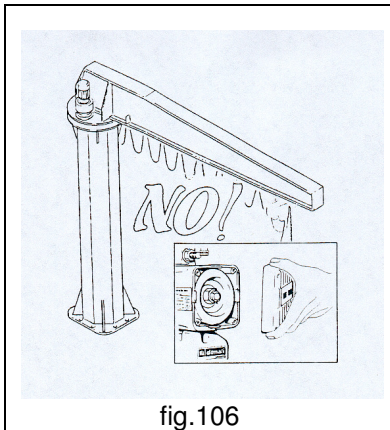

fig.106
- **NEVER** modify or de-calibrate the parameters on the safety devices on board (limit switches, load limiter, friction device, etc.) and/or provoke the mishandling of the crane or its components (fig.106).